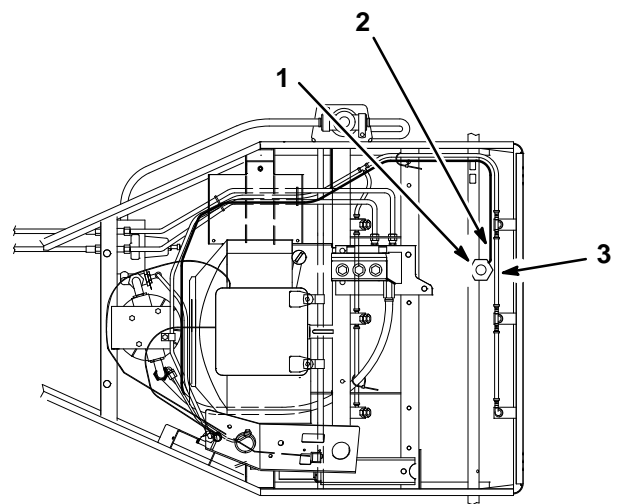

Figure 12
- C. Install new blue 3/8" (9.5 mm) hose between the spray wash nozzles (Fig. 12).
- D. Install new blue 3/8" (9.5 mm) hose to the regulator. Route the hose around the left-hand side of the machine, then through the machine frame to behind the engine (Fig. 12).